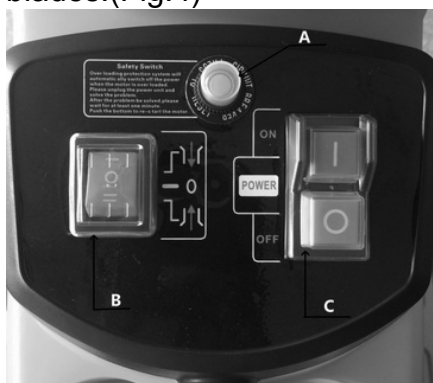

Fig.4
2. Press the Forward/Reverse Button (B) to REVERSE "-"  position.
3. Press and hold the On/Off switch to ON(I) position to remove any objects that could obstruct the blades.(Fig.4)